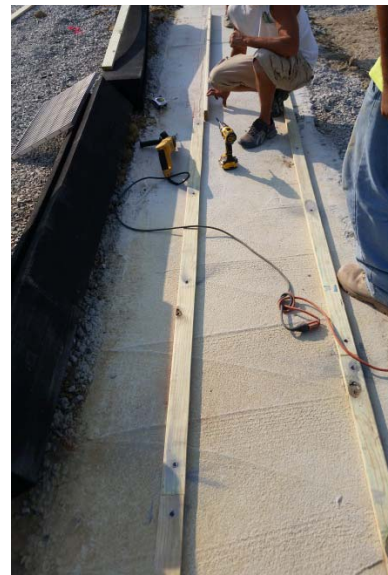

*Figure 1A*
2. Sight and stake out the outside perimeter of the long jump pit layout. Grade the long jump pit curb location approximately 32" wide for the side sand catchers, and 10" wide for the end curbs at the top and bottom of the pit. Form and pour a 2"-3" minimum concrete mud slab as the base for rubber curbs and bottom for the sand catchers. **IMPORTANT:** Level the concrete slab to the correct height accounting for the overall height of the rubber curbs that will be installed on top. A properly installed base will ensure a good installation. *See Figure 1A.*